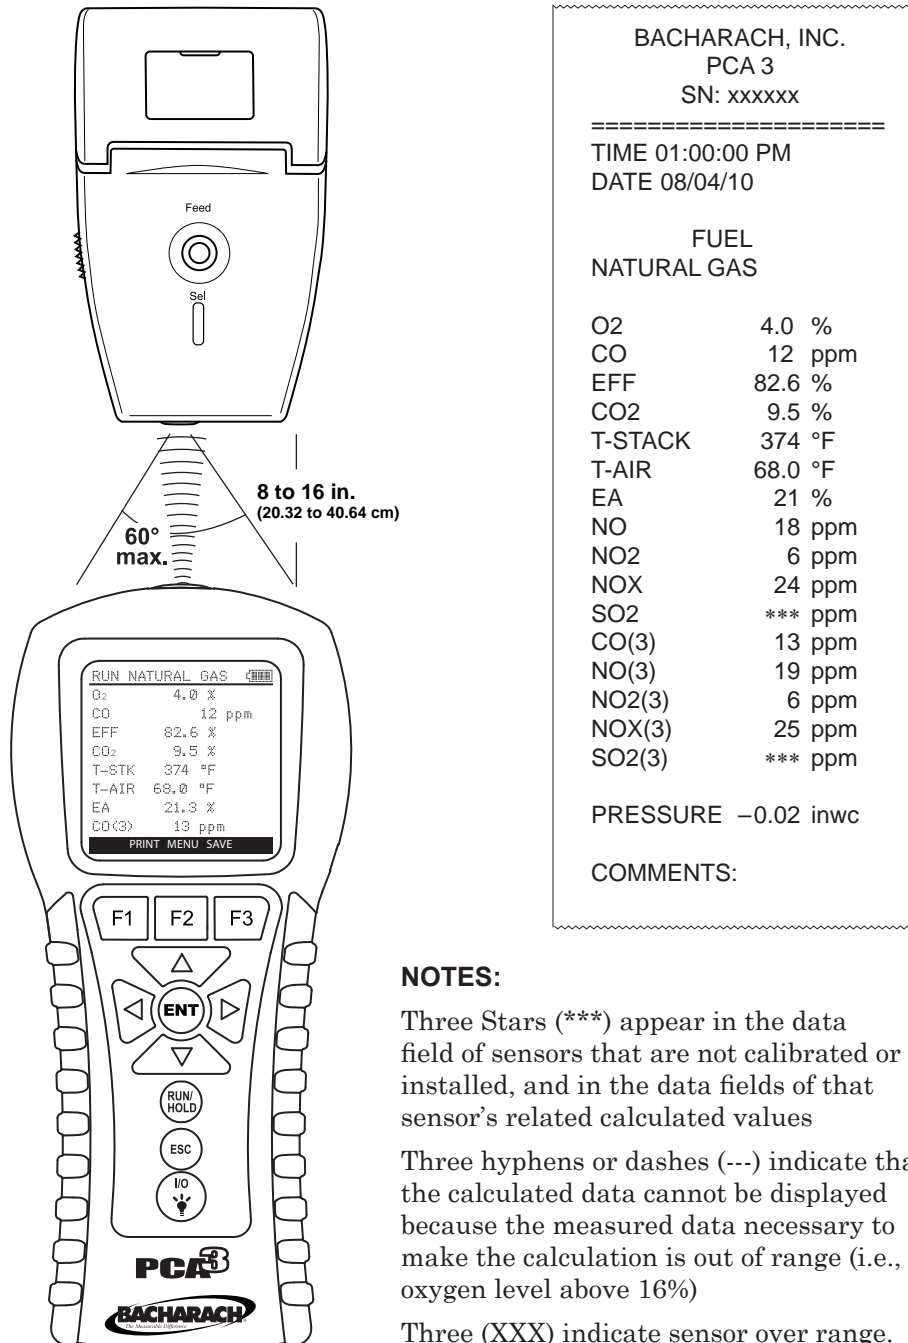

Figure 4-4. Printer Alignment & Sample Printout
2. Align the printer with the top of the analyzer as shown in Figure 4-4.
The printout shown in Figure 4-4 shows typical combustion-test results of an analyzer containing O2, COLow, NO, and NO2 sensors. Note that since the SO2 sensor is not installed, three stars (\* \* \*) appear in their data fields.